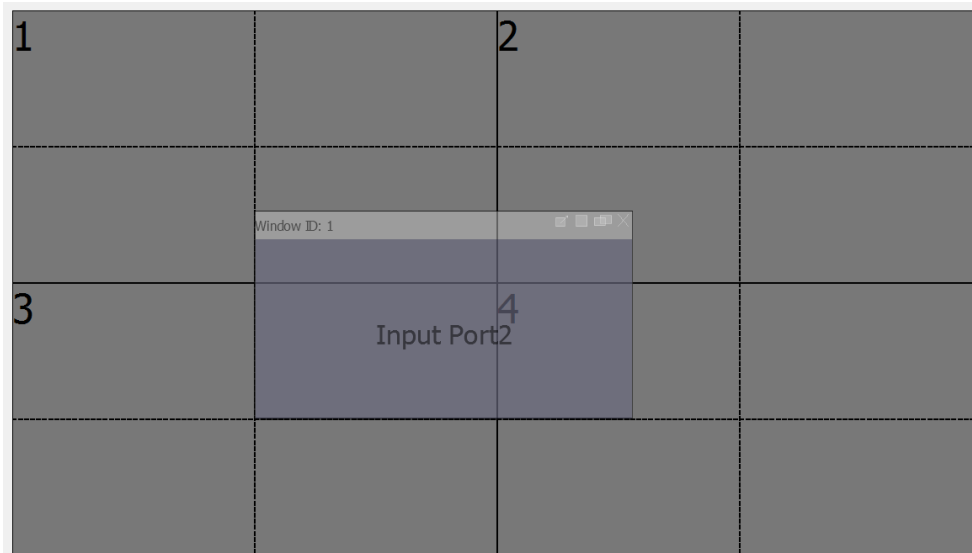

Figure 39: Input position locked example
- Left clicking on the Lock the Position option will cause the input to change to a transparent appearance as shown above in figure 39. With this option enabled the user is not able to re-position, change the size of or close the image meaning until the lock is removed the image will stay in its current position on the video wall